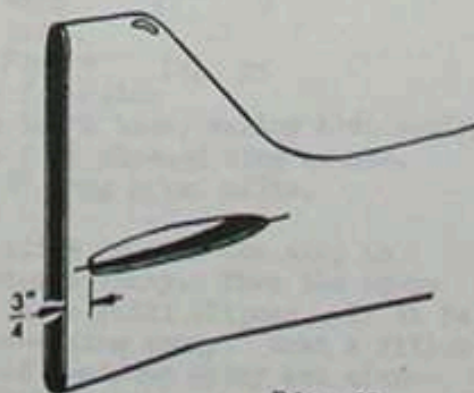

Fig. 21
24. Using the stabilizer cross section shown on the template drawing, trace the outline on the fuselage at the location shown in figure 21, using the alignment marking molded into the fuselage. With a Dremel tool, cut an opening in each side of the fuselage. Note that these openings are slightly larger than the stab to allow for alignment.